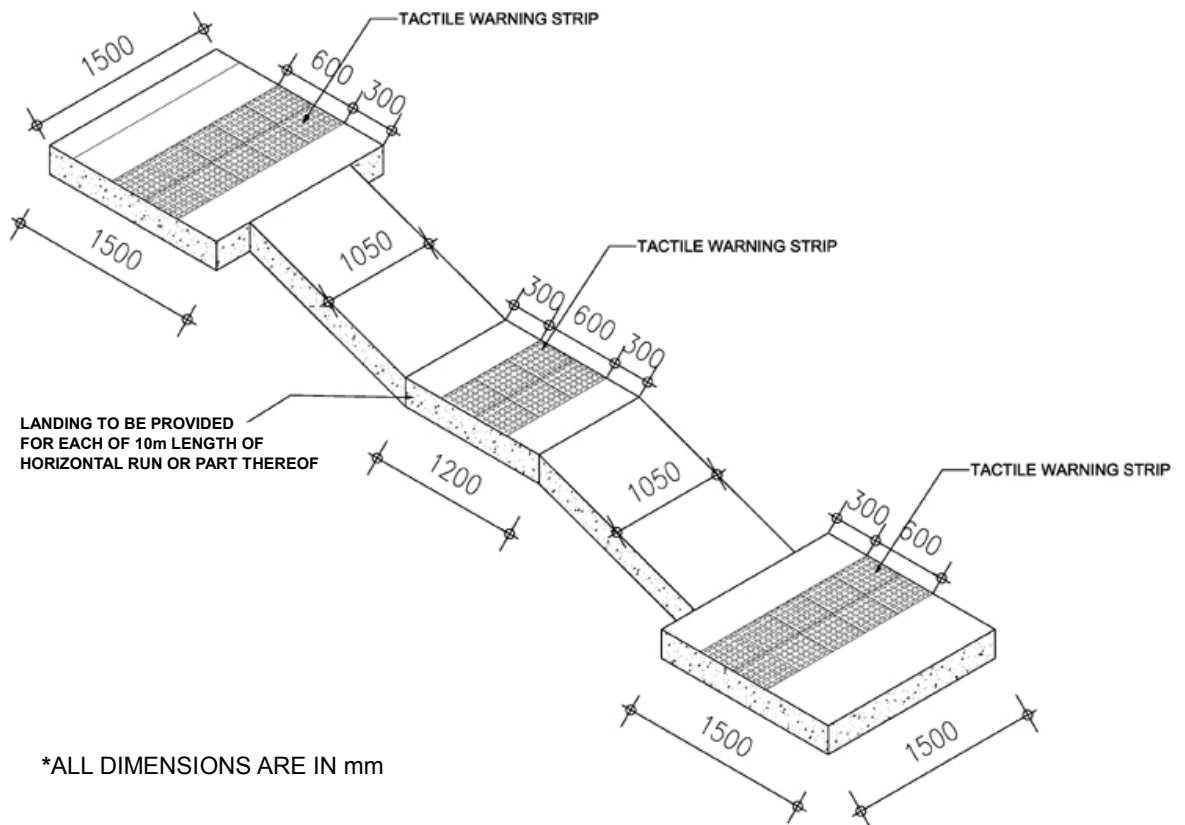

Figure 7 - Tactile Warning Strips and Landings for Ramps
(1) If the gradient of a ramp is 1 in 20 or steeper, the ramp shall be provided with :-
- (a) a landing of not less than 1200 mm long for each 10 m length of horizontal run or part thereof; (see Figure 7)
- (c) tactile warning strips at the head, foot and landings (see Figure 7).
(2) The above items shall not apply to ramp access to lift or ramp with a length less than 300 mm.